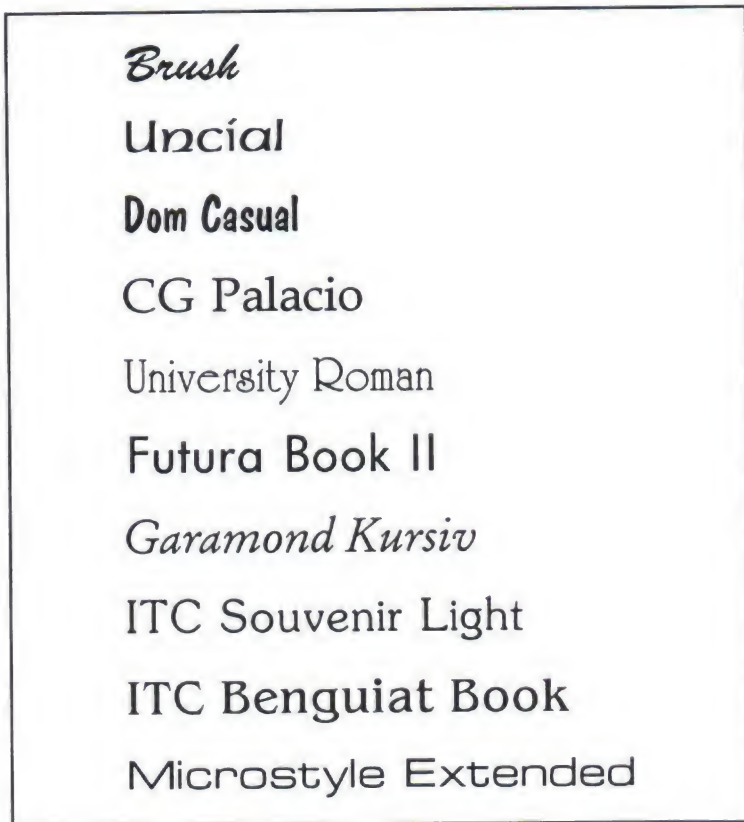

Figure 3-9. Different Typefaces
**Typeface** refers to the design of characters and symbols. The body text of this manual is in the *Century Schoolbook* typeface. Typefaces improve (or impair) readability, focus the reader's attention, create moods and add impact. Figure 3-9 shows a few of the hundreds of different typefaces.